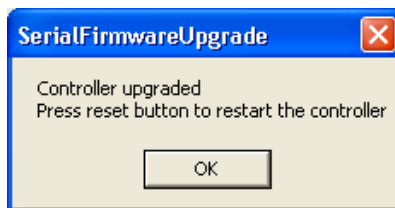

Figure 52. The Serial Firmware Upgrade window
- Select Firmware version1 from the drop-down menu and click **Upgrade**. File transmission starts to the PLC. A confirmation window opens when the PLC is upgraded, see Figure 52.